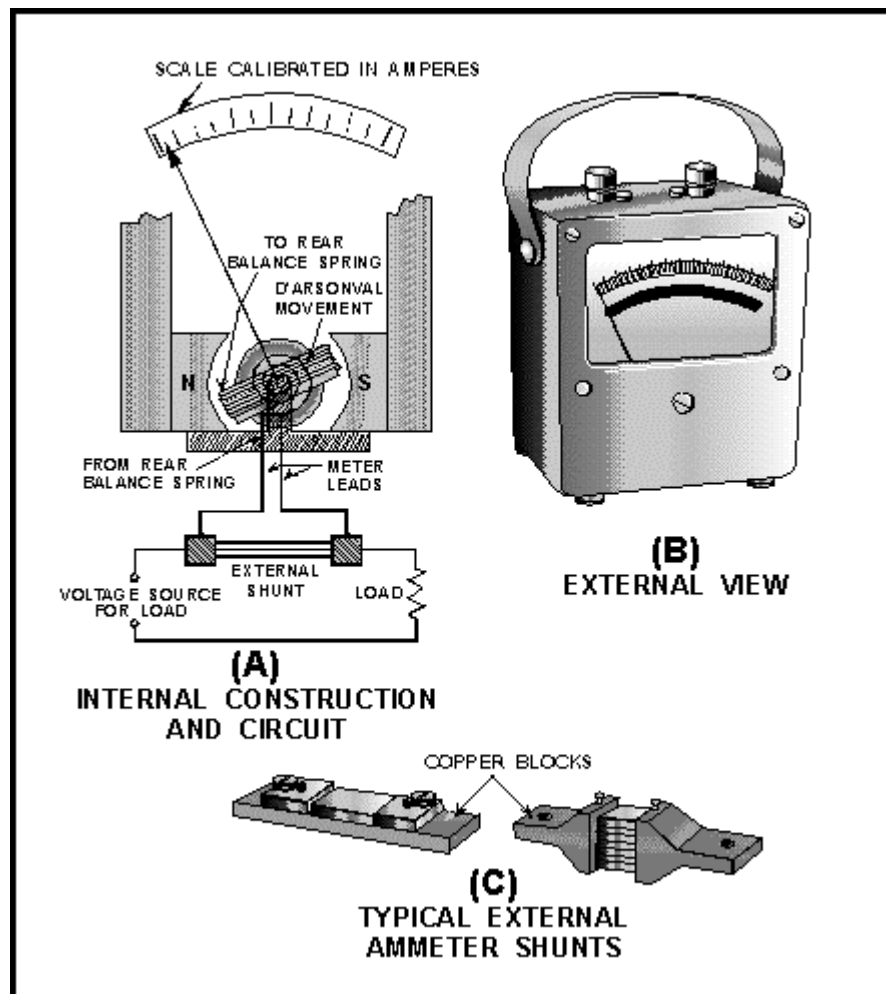

Figure 1-23.—An ammeter employing the d'Arsonval principle and external shunts.
For higher current ranges (above 50 amperes) ammeters that use external shunts are used. The external shunt resistor serves the same purpose as the internal shunt resistor. The external shunt is connected in series with the circuit to be measured and in parallel with the ammeter. This shunt (bypasses) the ammeter so only a portion of the current goes through the meter. Each external shunt will be marked with the maximum current value that the ammeter will measure when that shunt is used. Figure 1-23 shows an ammeter that is designed to use external shunts and a d'Arsonval meter movement. Figure 1-23(A) shows the internal construction of the meter and the way in which the external shunt is connected to the meter and to the circuit being measured. Figure 1-23(C) shows some typical external shunts.